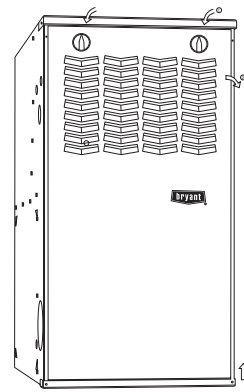

Fig. 7 - Remove Furnace Door
4. Remove the outer door by loosening the thumbscrew and pulling the door forward. See Fig. 7.
4. Remove outer furnace door. (See Fig. 7)